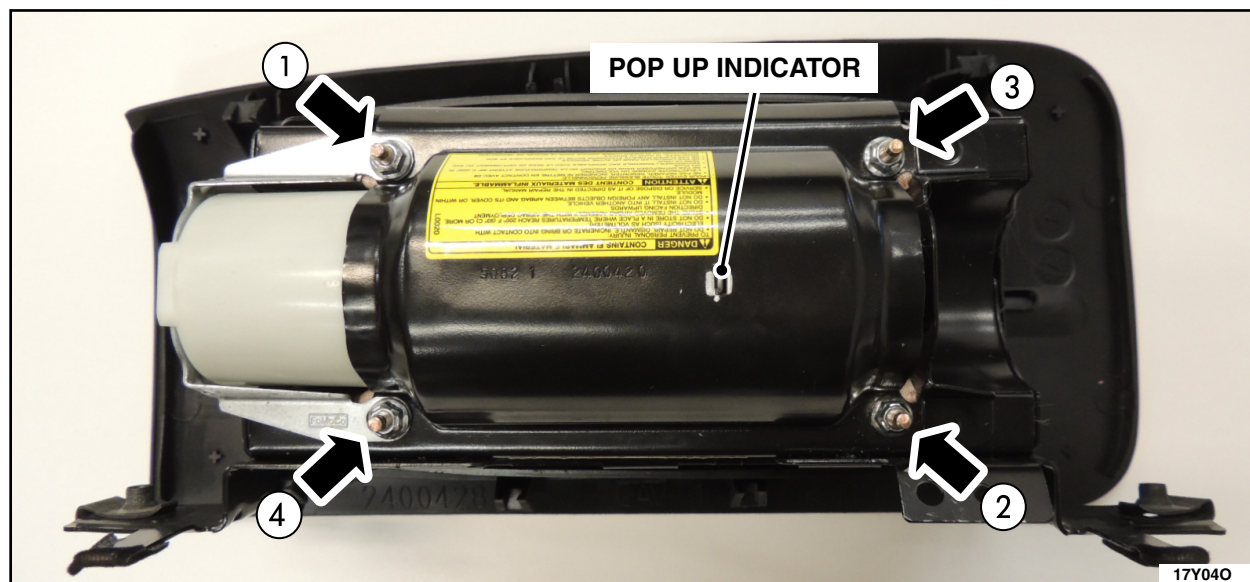

FIGURE 15
13. Install four *new* nuts. Assure pop-up indicator on air bag assembly is present. See Figure 15.